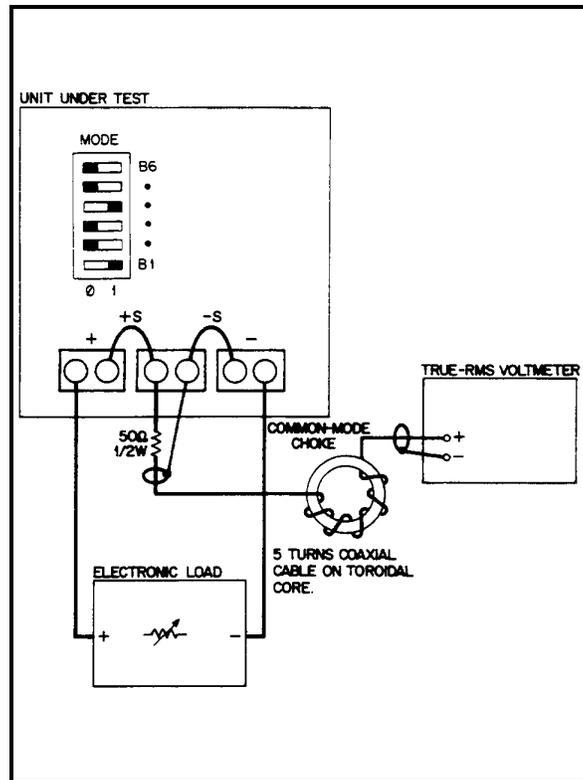

Figure 2-6. RMS Measurement Test Setup, CV PARD Test
RMS Measurement Procedure. Figure 2-6 shows the interconnections of equipment to measure PARD in Vrms. To ensure that there is no voltage difference between the voltmeter's case and the unit's case, connect both to the same ac power outlet or check that the two ac power outlets used have the same earth-ground connection.
- a. Connect the test equipment as shown in Figure 2-6. Operate the load in constant resistance mode (Amps/Volt) and set resistance to maximum.